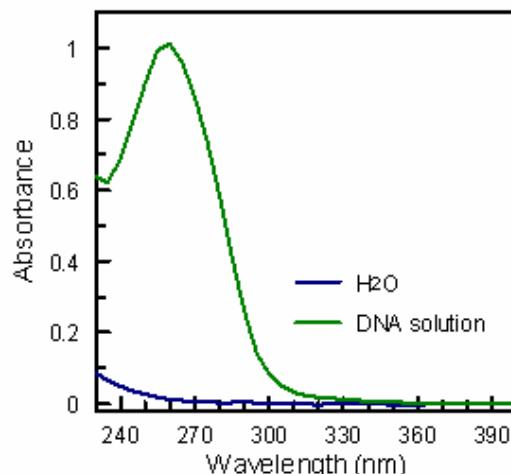

Fig 1. Spectra of pure DNA solution and water measured using an IMAPlate™ 5RC96
**Figure 1** shows spectra of calf thymus DNA solution and water in the reaction chambers of an IMAPlate measured by a microwell plate reader. The obtained spectrum is a typical spectrum of a pure DNA sample measured by a spectrophotometer and can be used for both quantitative and quality analysis.